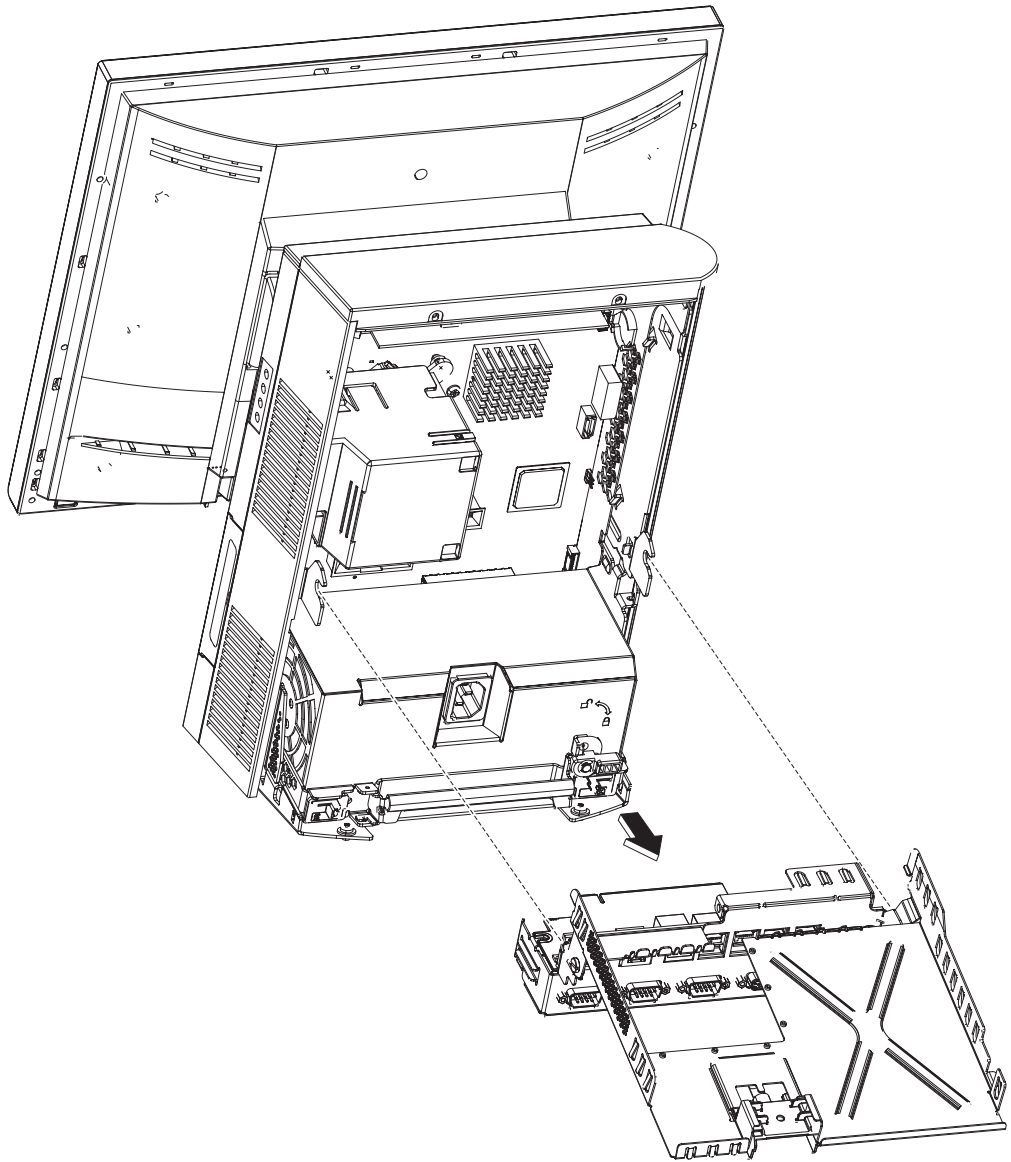

Figure 16. Removing the tailgate
6. As shown in Figure 16 on page 44, carefully remove the I/O tailgate cover from the system board.